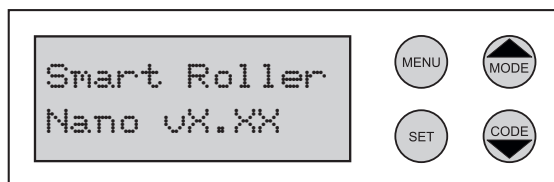
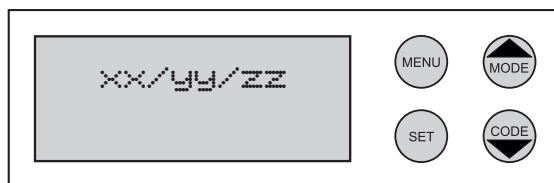
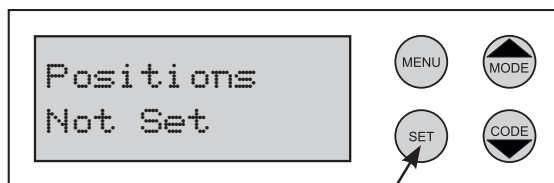

Fig. 10
Fig. 11
Fig. 12
- 2 Connect to power. The opener will perform a firmware check and display the welcome screen with firmware version for 2 secs as per Fig. 10 followed by the firmware release date for 2 secs as per Fig. 11. The first time the unit is powered up and no limits have been set the unit will display Positions Not Set (Fig. 12).